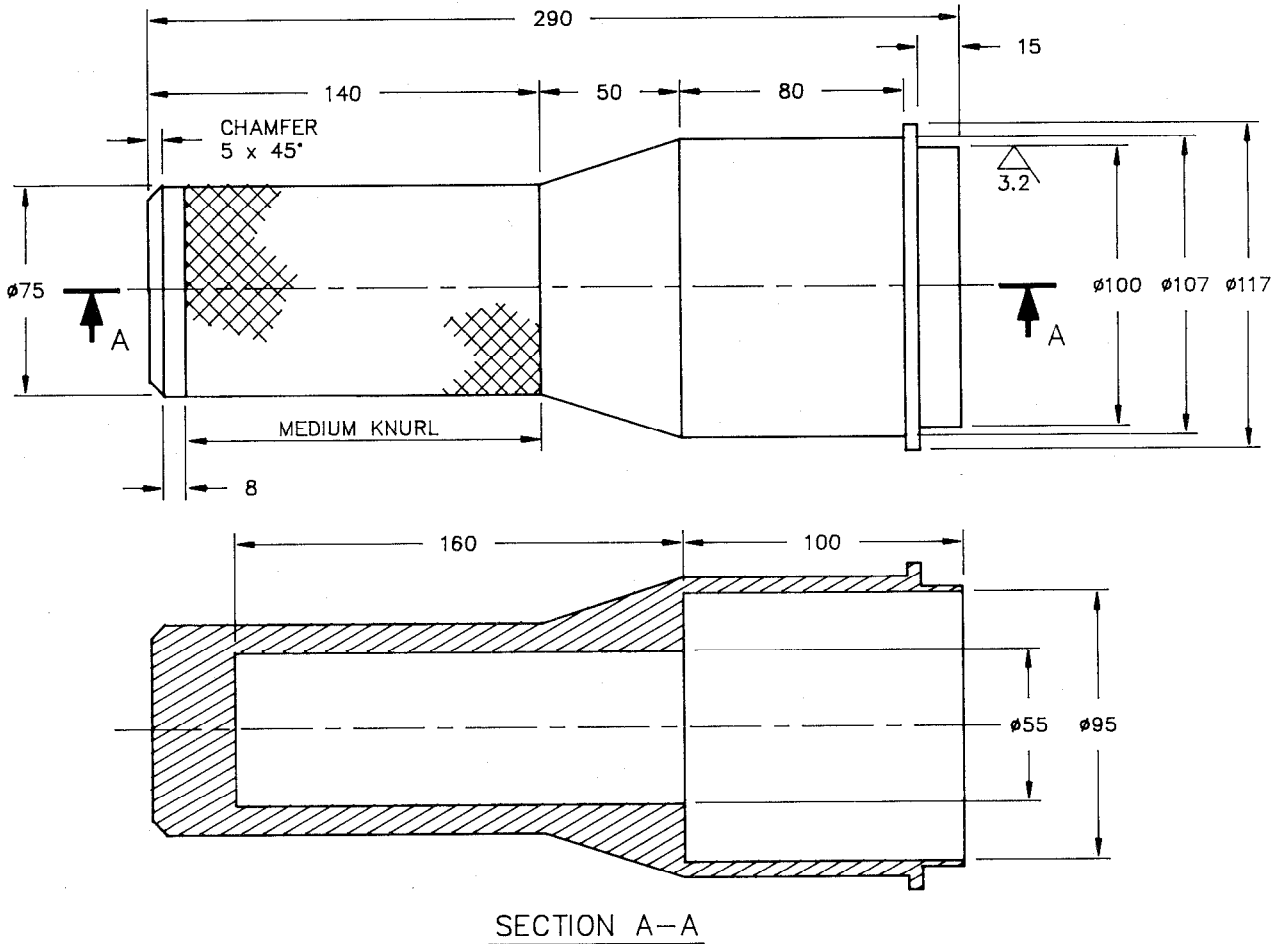

FIG 1 - REAR AXLE PINION SEAL INSTALLATION TOOL
- a. Machine the steel bar to the dimensions detailed in Fig 1.